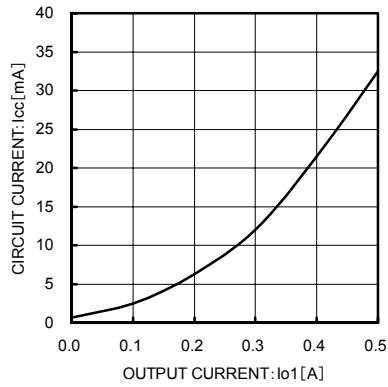

Fig. 14 Circuit Current vs Load Current I_{o1} (I_{o1} = 0 → 500 mA)
- Power consumption due to circuit current: $Pc3 = V_{cc} \times I_{cc} = 5 \times 0.0085 = 0.0425 (W)$ (See Figs. 14 and 15)